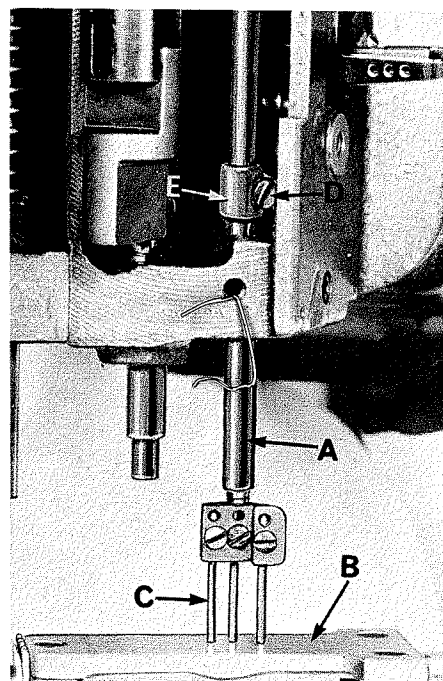

Fig. 8
Align the needle bar (A, Fig. 8) with test plate (B) No. 698 BR-8 or -9 as applicable to the machine gauge, using test pins (C) No. 699 D. Loosen screw (D) in needle bar connection (E) permitting alignment of test pins into the test plate. With the needle bar connection (E) at the bottom of its travel and the shoulders of the test pins (C) seated on the test plate (B), the needle bar is automatically set at its proper height. Retighten screw (D).